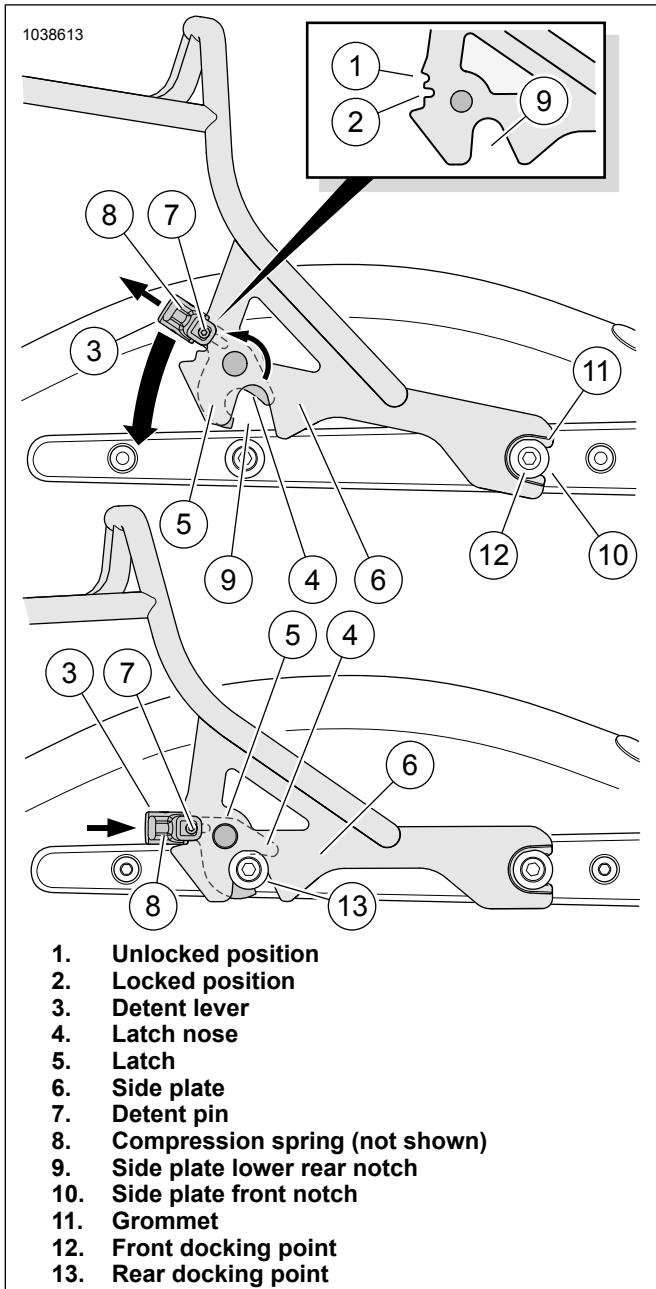
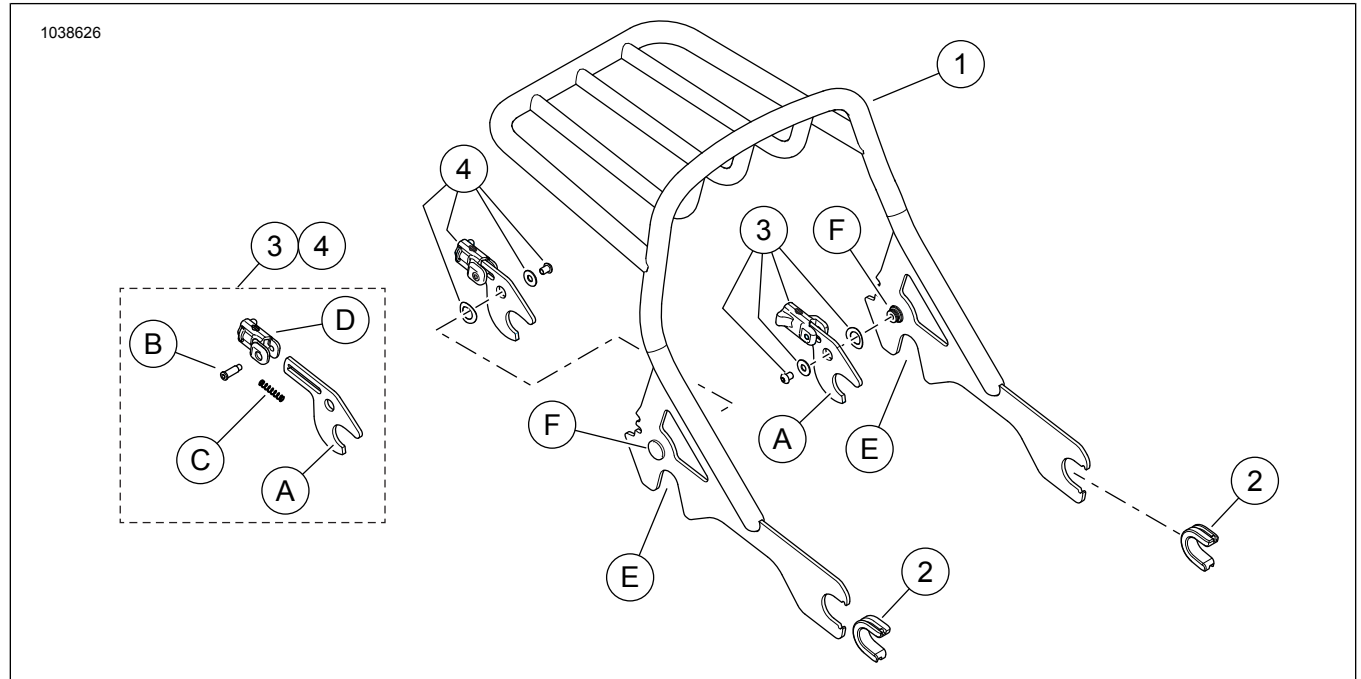

Figure 1. Detachable Luggage Rack Installation
Figure 3. Service Parts, Detachable Luggage Rack Kits
Refer to Figure 3 and Table 1.
- See Figure 3. Position the right (4) and left (3) latch levers in the unlocked position as shown in Figure 1, upper view (Item 1).
- Pull both detent levers (3) rearward against the compression spring (8, not visible).
- Rotate the levers upward so each latch nose (4) is positioned inside the lower rear notch (9) of the side plate (6).
- Each detent pin (7) is now located in the uppermost (unlocked) position notch.
- The compression spring (8) inside the detent lever holds the latch (5) in the unlocked position.
- Push the luggage rack front notches (10), with grommets (11) in place, firmly and evenly into the **front** docking points (12).
- See Figure 1, lower view. Swing the rear of the luggage rack side plates (6) downward toward the **rear** docking points (13).
- As the side plates (6) move down, the latches make contact with the plastic surface of the rear docking points.
- As the docking points contact the latches, each latch nose (4) is forced upward.
- This causes the pin (7) to move down into the lowermost (2-locked) position on the side plate.
- The springs (8) lock each latch firmly in place around the rear docking points.
- Make sure that detent pins (7) are fully seated against the side plates (6).
- If not fully seated, push detent lever (3) forward.
- a. As the levers rotate upward, the latch noses (4) are forced against the rear docking points (Figure 1, Item 13).
- b. This raises the rear of the backrest side plates (6) out of the docking points.
3. Release the detent levers. The springs (8) will move each lever back into the unlocked position (1).